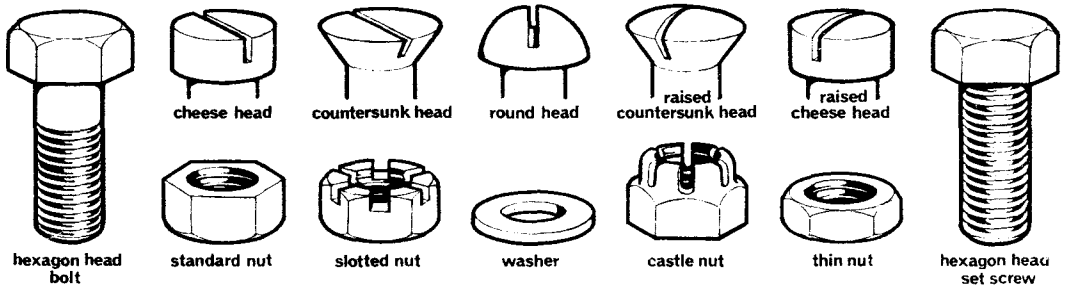

Fig. 1. Nuts and bolts
2. A bolt is a specially shaped metal rod with an external (male) screw thread (Fig. 1) and is designed to mate with a nut which has an internal (female) thread of the same type. Several different thread systems are in use and a nut of one system cannot be fitted to a bolt of another system. The parts to be joined have a hole of the correct diameter (found from thread clearance tables) drilled through them. The bolt is pushed through this hole and the parts are tightened together by fitting the nut.